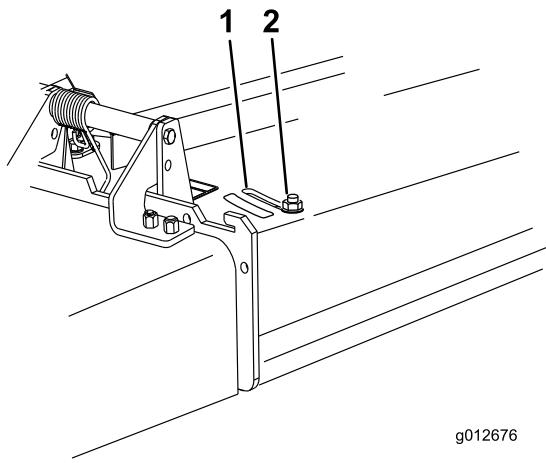

Figure 20
3. To adjust the baffle, loosen the nut (Figure 20).